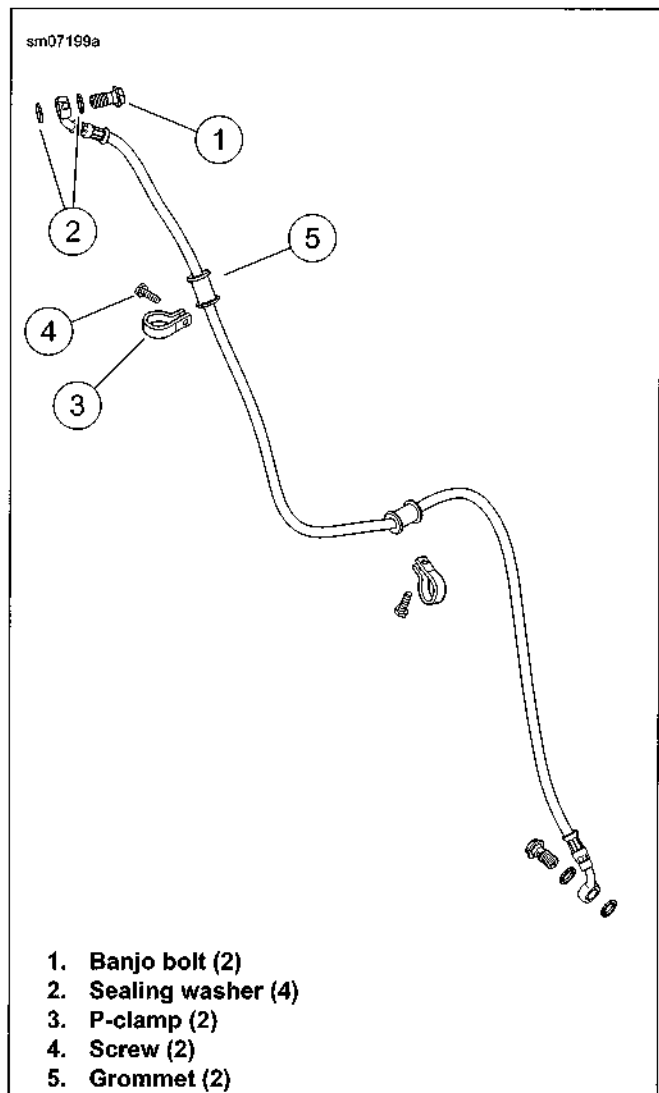
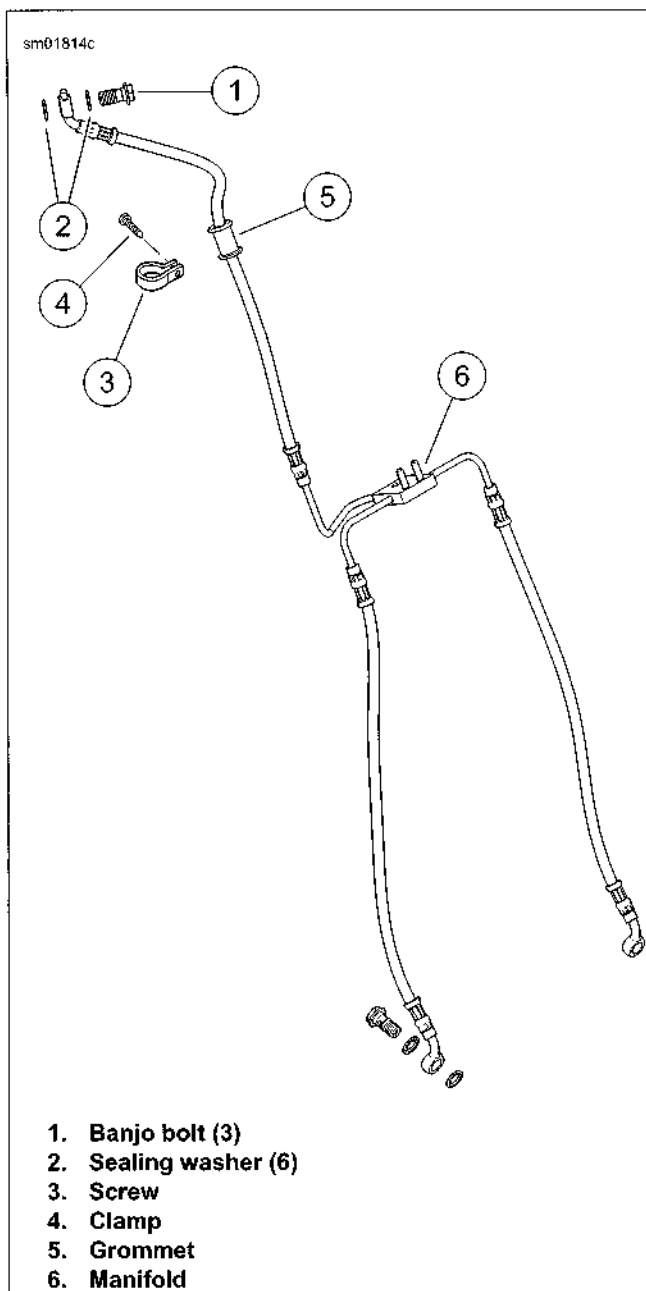

Figure 2-76. Brake Lines: Non-ABS Single Disc Models
Figure 2-77. Non-ABS Brake Line: Dual Disc Model
- See Figure 2-76 or Figure 2-77. Loosely install master cylinder banjo bolt (1) and fitting with **new** sealing washers (2).
- Loosely install upper clamp (3) with screw (4).
- Dual disc model:** See Figure 2-77. Install screw through brake line manifold into steering head stem.